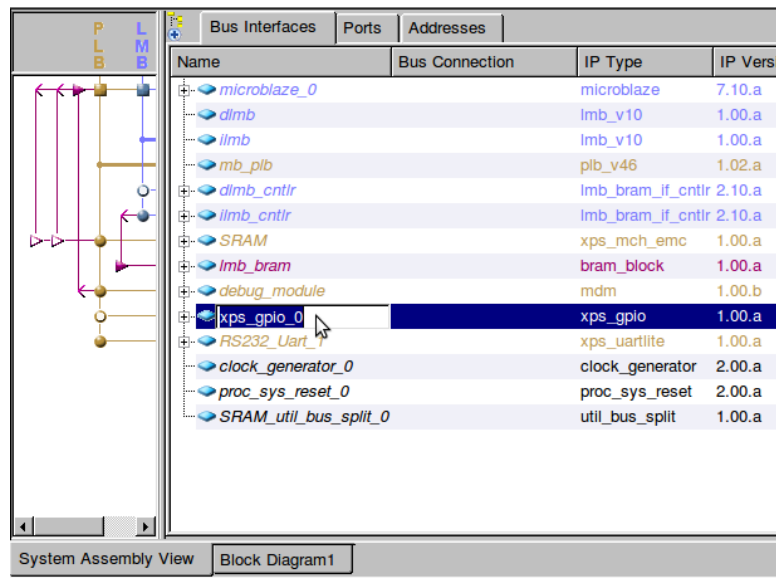

Figure 8: Rename 'xps\_gpio\_0' to 'LEDs'
- (b) XPS responds by adding an IP block called 'xps\_gpio\_0' to the project. This can be seen now in the 'System Assembly View' under the 'Bus Interfaces' tab. Click on this IP module and rename it 'LEDs'. See Figure 8.